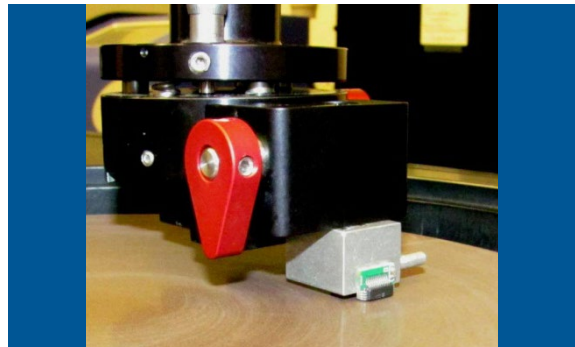

Figure 2. Sample mounted on a cross-sectioning paddle and then suspended on the polisher's arm.
- **Polishing with a stationary arm.** Mount the cross-sectioning paddle to a polisher with a stationary arm, such as the Allied MultiPrep System (Figure 2). Ensure that the stationary arm is properly aligned.